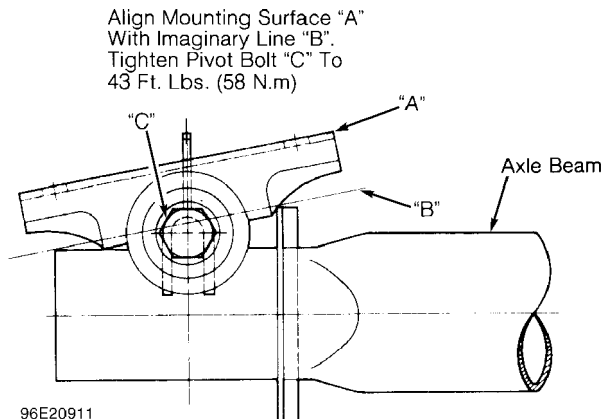

Fig. 2: Aligning Axle Beam Mounting Pad
2) Using Mounting Bracket Aligner (3021), align mount until aligner reads about 12 degrees. If aligner is not available, follow directions in illustration. See Fig. 2. With vehicle on ground, tighten pivot bolt nut to specification.